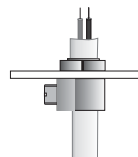

Fig. 2
- In case of independent installation (not in a box), substitute the rubber "grommets" **P** with "Cord Grips" accessories available on request (fig. 2).